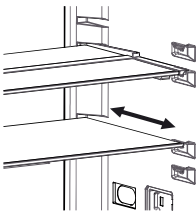

Fig.2
- You can load your food as you want in the resulting extra space. (Fig.2)